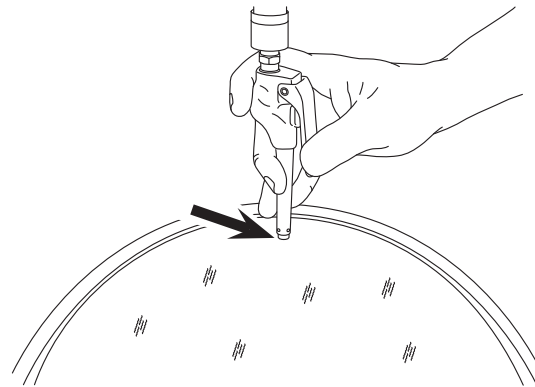

Figure 25
4. Use the compressed air nozzle to lightly blow through the top of the DPF, covering the entire area of the substrate face. (Figure 25) This exercise helps to dislodge the ash that clings to the underside of the DPF.
5. Apply five (5) quick blasts of air by pressing the discharge button on the control panel five (5) times. Use a quick (one second) press and release motion.